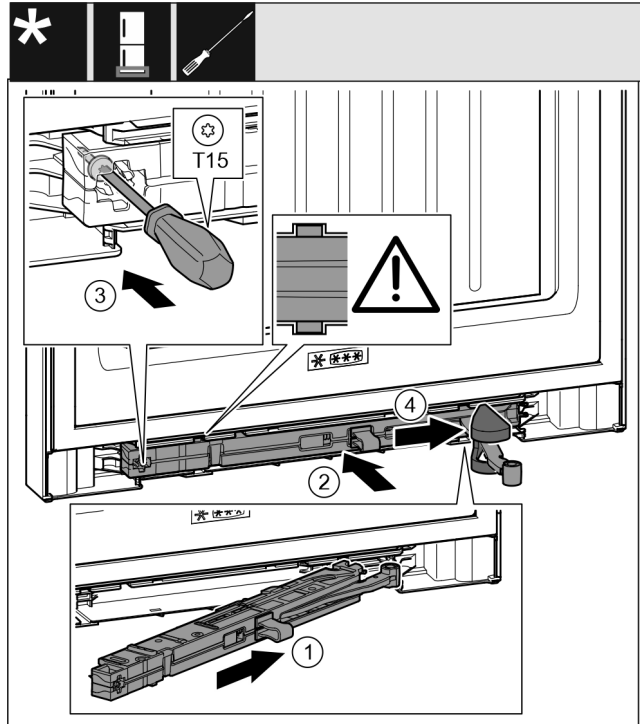

Fig. 46
- ▶ Slide the soft stop mechanism on the bearing bracket side at an angle into the recess as far as it will go. Fig. 46 (1)
- ▶ Slide the soft stop mechanism fully into the recess. Fig. 46 (2)
- ▶ Tighten the screw using a T15 screwdriver. Fig. 46 (3)
- ▶ Push the cover over the hinge. Fig. 46 (4)